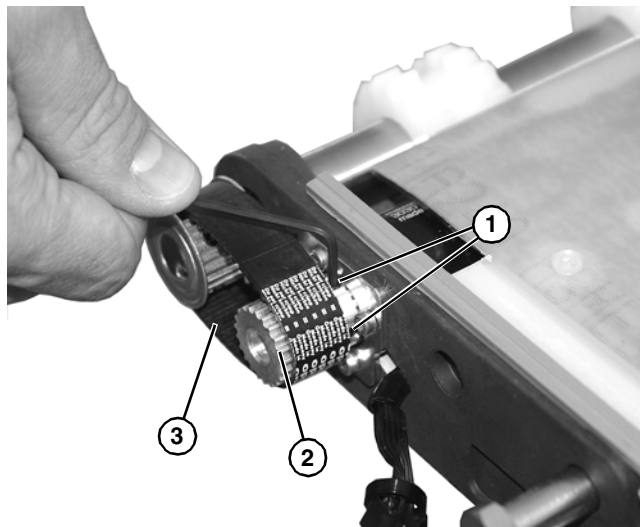

Figure 46
7. Loosen two set screws (**Figure 46, item 1**) on drive pulley (**Figure 46, item 2**). Slide drive pulley outward off of the gearmotor shaft, and remove timing belt (**Figure 46, item 3**).